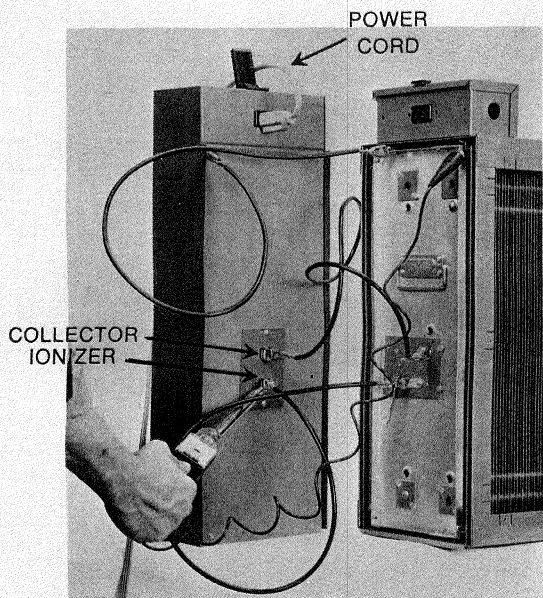

FIG. 15—MEASURING OF IONIZER AND COLLECTOR VOLTAGES
1. Connect a 120 VAC supply to the power pack using power cord as illustrated in figure 15.
2. Connect the jumper wires from the power pack to the collecting cells as illustrated in figure 15. (Note—Make sure rear cell is making proper contact with front cell.) Push the ON/OFF switch to the "on" position.
3. Using a kilovoltmeter capable of measuring 0-10,000 VDC, measure the voltage at the ionizer and the collector contacts (See fig. 15).